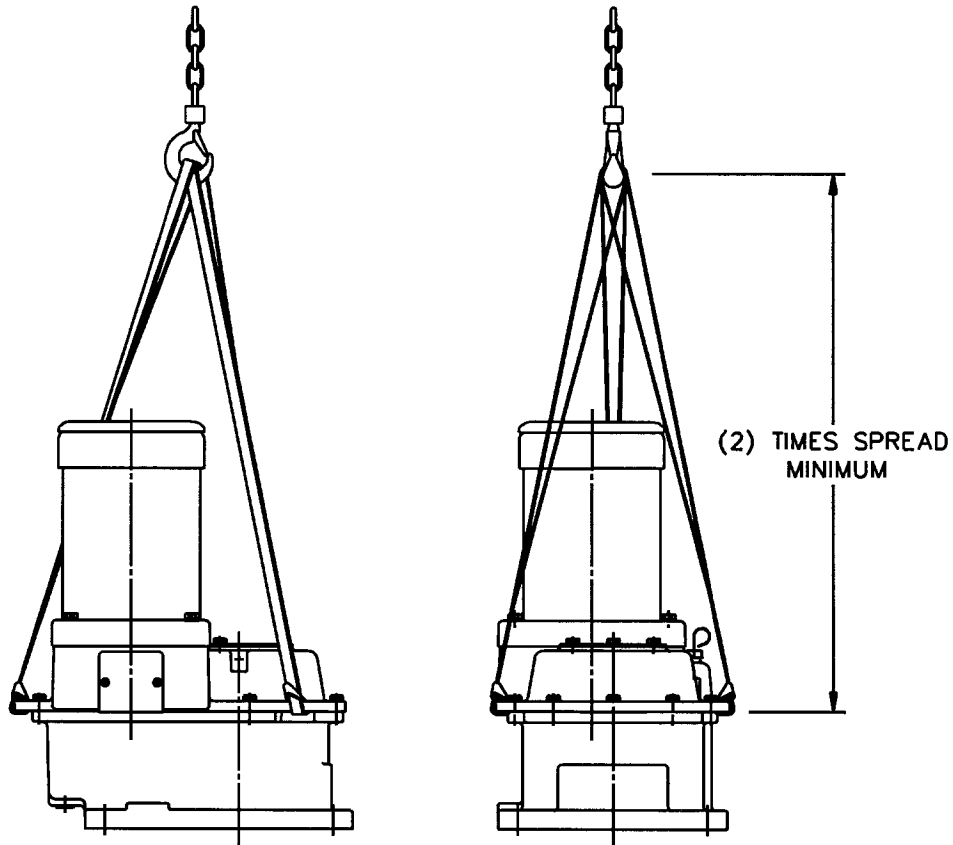

Figure 10: Agitator Lifting System
2. Remove all shipping restraints. A hoist or crane system for the lifting of the agitator parts must be available. Refer to *Figure 10, page 18* for lifting instructions. The approximate net weight of the unit is shown on the unit assembly drawing.
14. Lift and suspend the agitator drive assembly (*Figure 10, page 18*) over the extension shaft coupling half close enough to allow installation of coupling bolts and lockwashers [359,360]. Install two bolts at 180°. Tighten the bolts to engage the tenon and pull the coupling faces together.